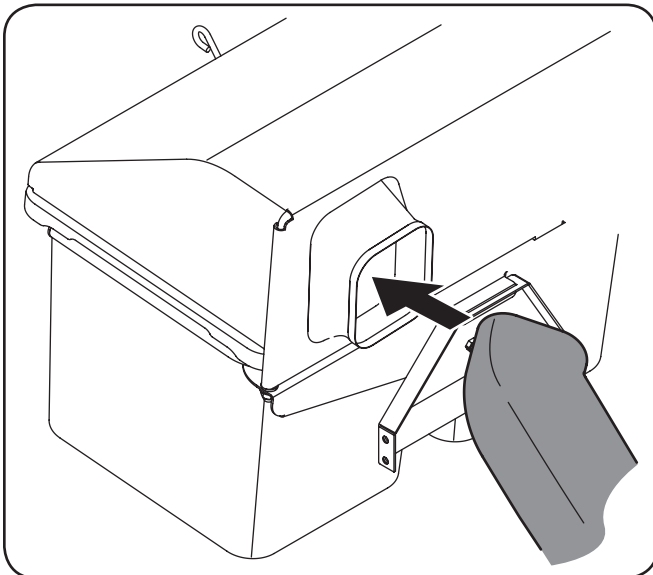

Figure 4-6
8. Insert the chute tube through the grass-catcher hood, in the opening provided. It is easiest to feed the end of the tube into the opening with the chute tube flipped upside down, then rotating right-side once inserted into the hood. See Figure 4-6.